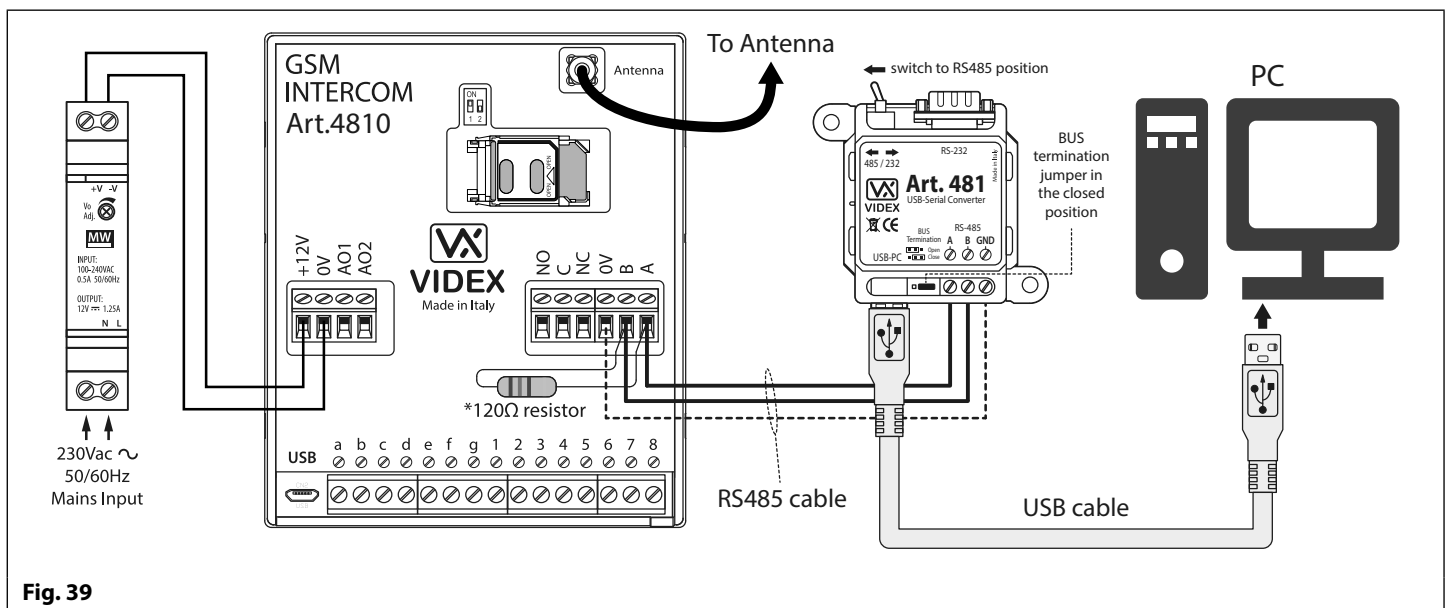

Fig. 39
The GSM PRO module can also be connected using an RS485 bus connection via an RS485 to USB converter (Art.481) as shown in **Fig.39**. This method of connection, like option 1, can be used for programming and setup of the GSM module, but can also be used in instances where a permanent connection to a PC is required for monitoring purposes and downloading event logs. When connected in this way the GSM module can only be connected as a 'one-to-one' bus connection to the PC, another GSM PRO module **cannot** be connected on the same RS485 bus to the PC.
*For end of line termination a 120 Ohm resistor must be fitted across the RS485 terminals A and B, as shown in **Fig.39**, but only if the GSM PRO intercom is the last device in line.